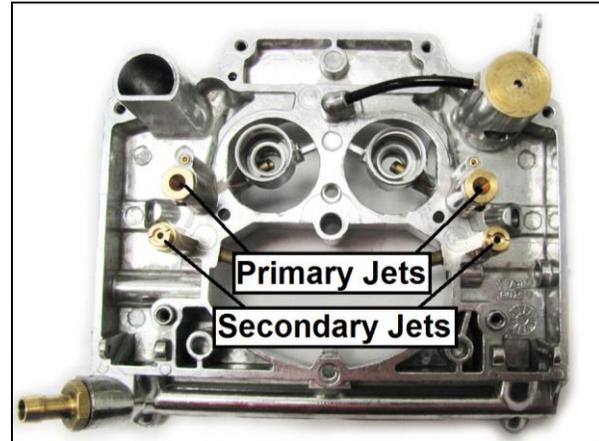

Figure 25
8. Invert the air horn to access the primary and secondary metering jets (Fig. 25)